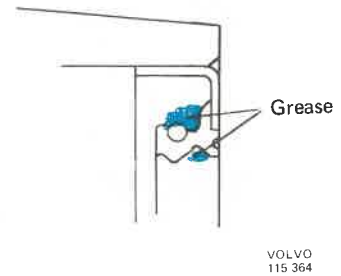

Fig. 43-178. Placing grease
5. Fill about a fourth of the space between the sealing lips and the space between the spring on the reverse side of the sealing lip with grease, Fig. 43-178. Press the seal into the housing with 6108, Fig. 43-179.